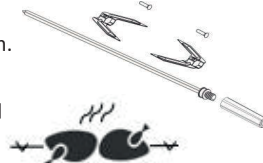

Figure 14
- Chickens should be placed in shish with their thighs crossed as shown in the Figure 14.